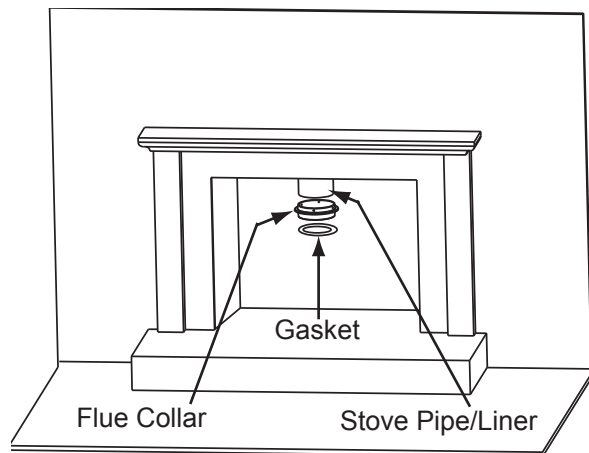

Figure 19.1
1. There are 4 pre-drilled holes in the flue collar 90 degrees apart. Attach the flue collar to the stove pipe/liner. If the seal is questionable use high temperature sealant such as stove mastic **Figure 19.1**.